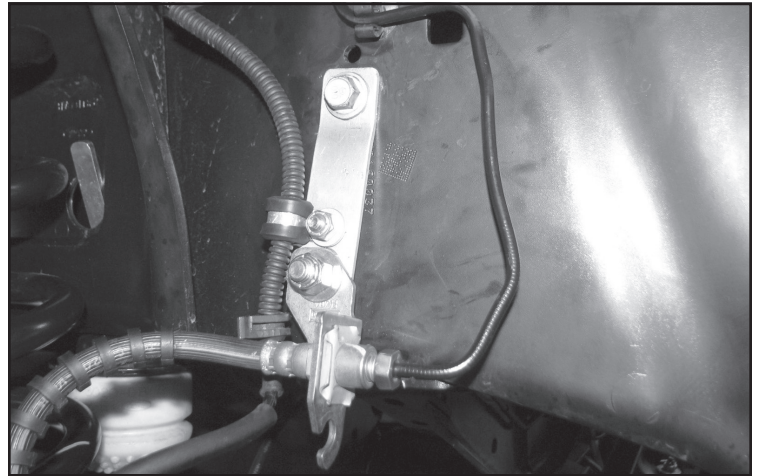

FIGURE 29 - STEP 30
30. **(PASSENGER SIDE)** Install FT30659 (Brake line bracket) to the factory brake line tab using the supplied 3/8" x 1-1/4" hardware (Use lower hole). Install the new bracket to the frame using the factory hardware. Torque 3/8" & factory hardware to 52 ft-lbs. Torque 1/4" hardware to 14 ft-lbs. Secure the ABS line to the bracket using a cable tie. **SEE FIGURE 29**